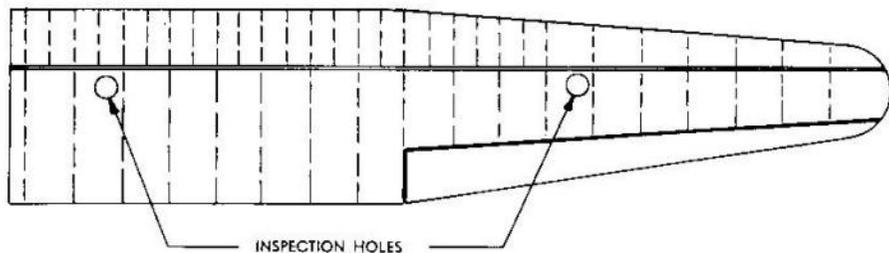

Figure 8 - Wing Inspection Holes
- d. All control connecting tubes, to see that they are properly connected and have no interference. (See figures 8 and 9.)